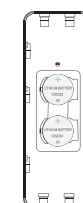

Figure 31
2. Insert batteries according to the polarity markings (Figure 31).